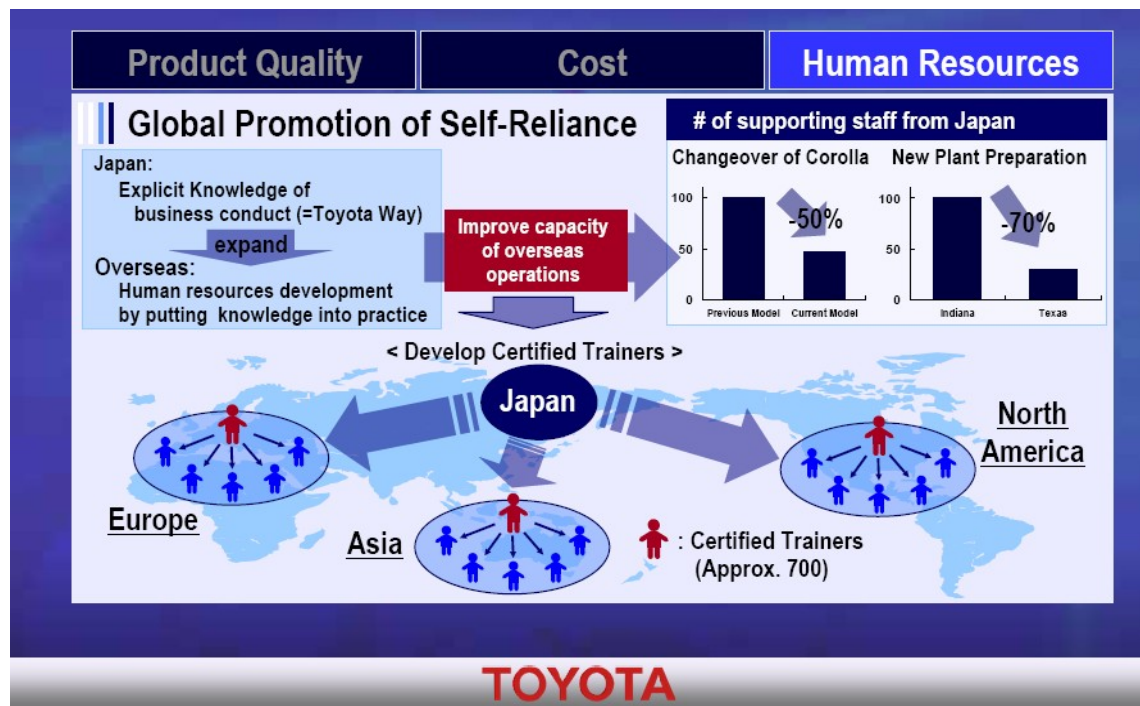

Figure 3, HR Barashi
The executive leading the Human Resources (HR) department supporting this large integrated organization then created his barashi to depict how his team would contribute to the enterprise goals. Figure 3 represents that visualization. The HR executive decomposed the vice president’s objectives into meaningful concepts in his own area of expertise. HR could contribute by improving capacity in global operations through the use of certified trainers, promoting self-reliance as the means of achieving quality improvements and cost reduction. Thus, their mission is integrally linked to the Vice President’s objectives and targets, and their contributions are measurable through metrics (note the metrics in the upper right-hand corner).